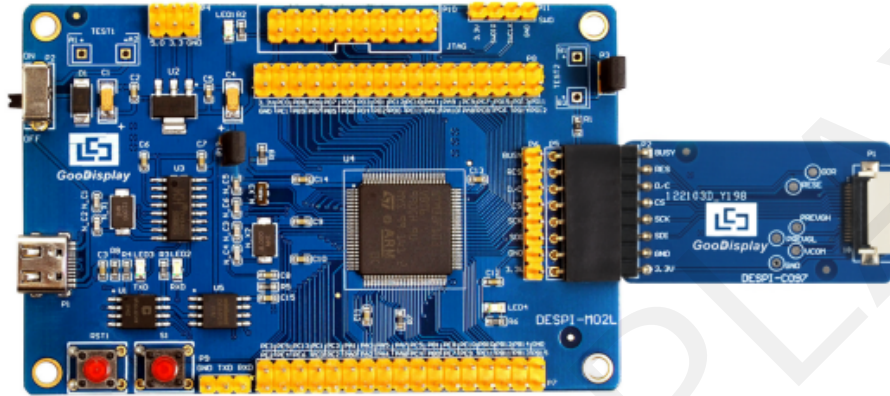
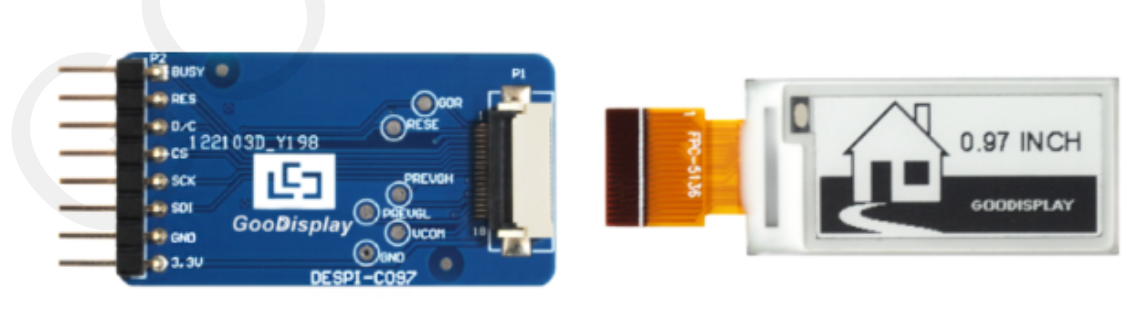

Figure 3 : Connection between main board and adapter
Figure 4 Connection between DESPI-C097 and e-paper display
1) Connect the main board and the adapter board as shown in Figure 3, and connect the electronic paper FPC to the connector of the adapter board as shown in Figure 4.